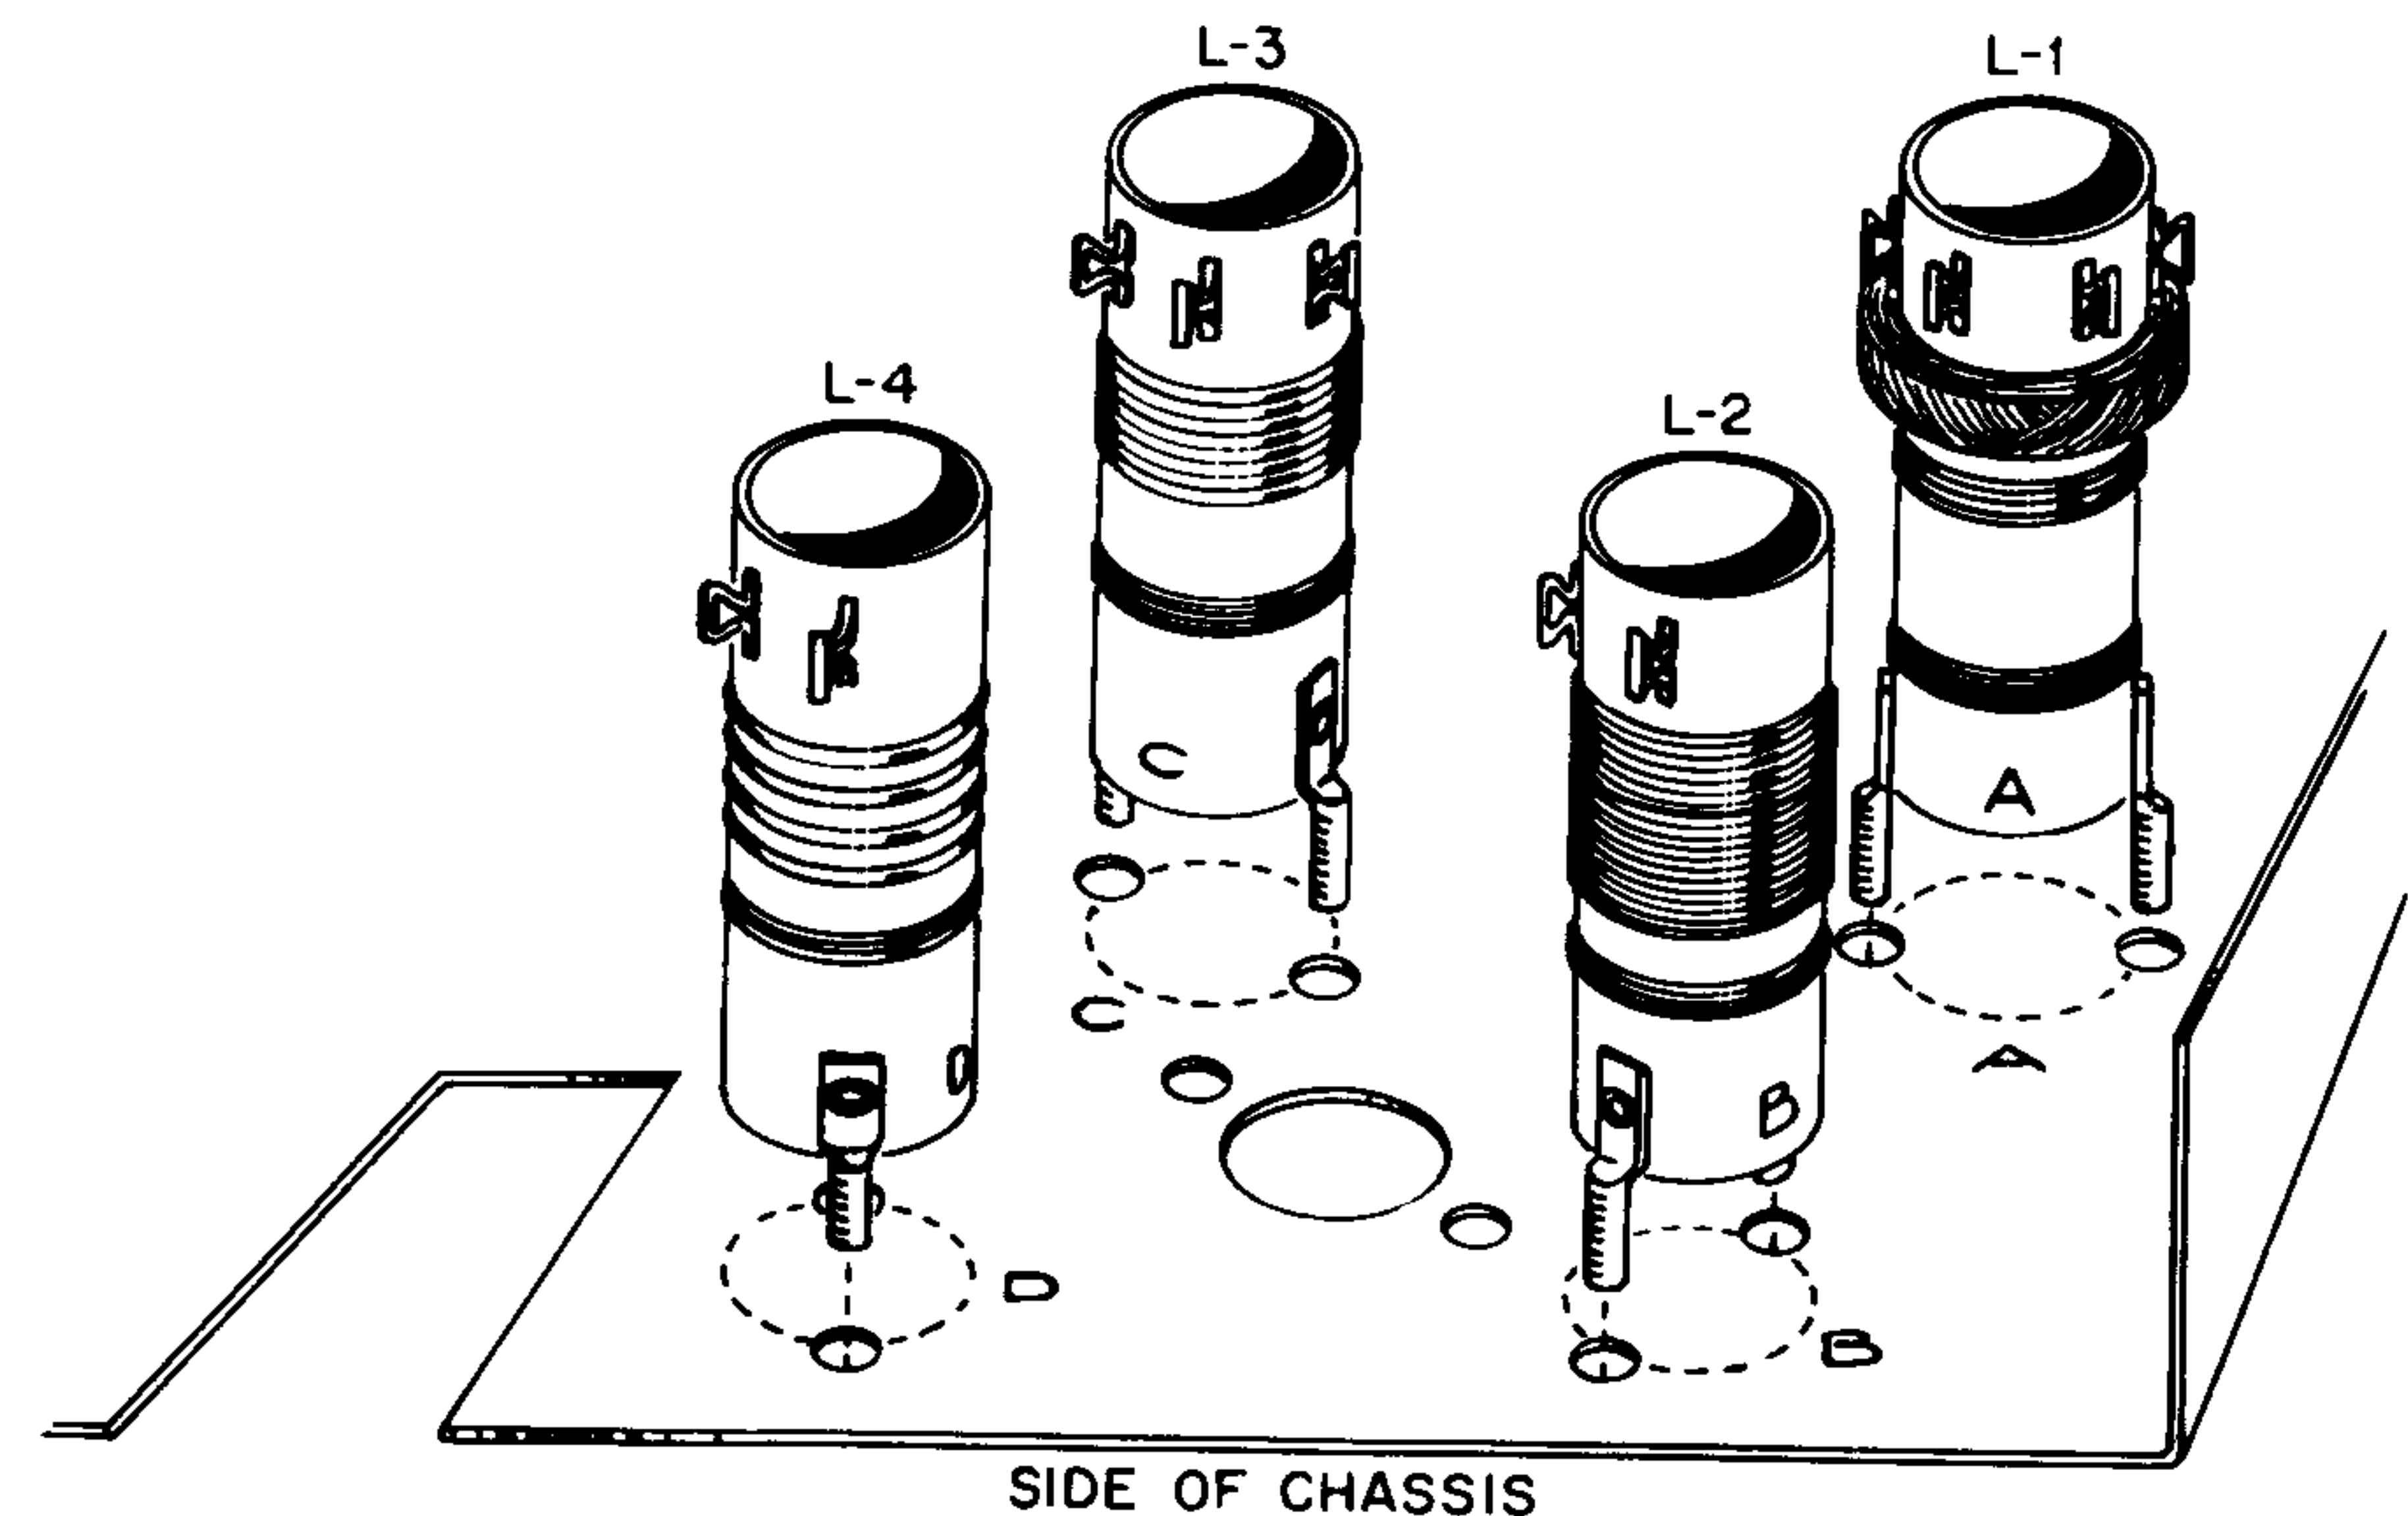

FIGURE 4. HOW TO MOUNT THE COILS
- Use matching nuts and lockwashers to mount the L-1, L-2, L-3 and L-4 coils, as shown in Figure 4. The letter stamped on the side of the coil must face the matching letter stamped on the chassis as shown. For example, L-1 should be mounted so the "A" on the coil faces the "A" on the chassis.